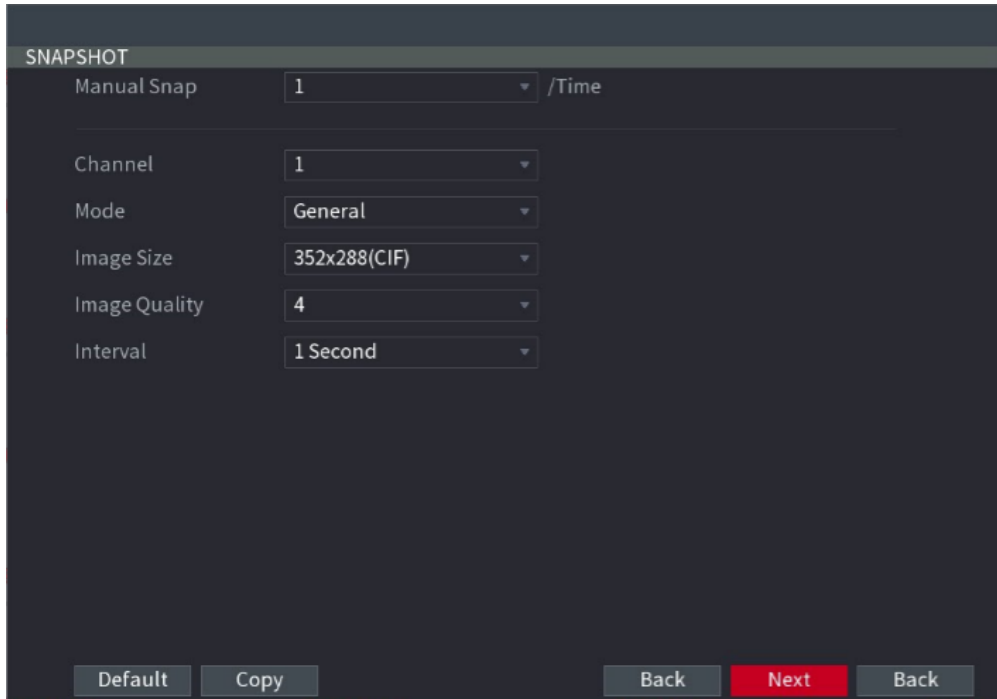

Figure 5-22
Step 1 After you have configured the encode settings, on the **Encode** interface, click **Next**. The **SNAPSHOT** interface is displayed. See Figure 5-22.